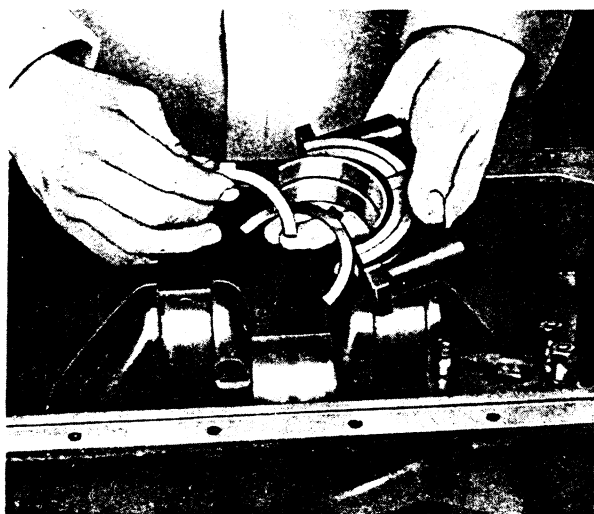

FIG. 43
6. Remove centre main bearing cap with liner and two thrust washers shown in Fig. 43—2 set screws on lock washers.